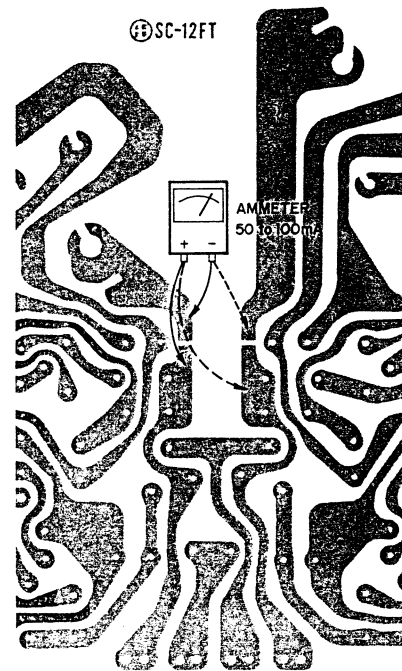

Fig. 41
1. POWER AMP. NON-INPUT CURRENT ADJUSTMENT (Refer to Figs. 41,42)
- 2) Connect a 50 to 100 mA scale ampere meter to the place from which the solder was removed in Item 1-1). (Fig. 41)